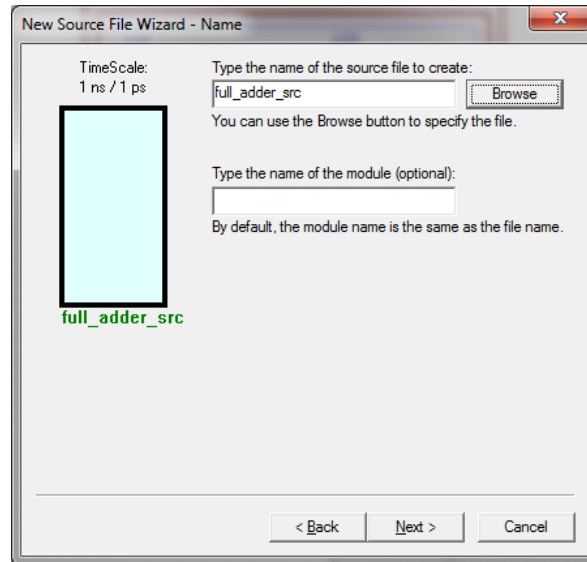

Figure 5
3. In the “Type the name of the source file to create” field, enter the name of your Verilog file using a **descriptive** name. You must try to keep them distinct so as not to confuse both you and the tool. Do not use the same name that you named your design or workspace. Also, **do not fill in the name of the module**; Active-HDL will use the source files name for the module by default. This just makes it easier for everyone to keeps things straight. Click the ‘Next’ button (Figure 5).